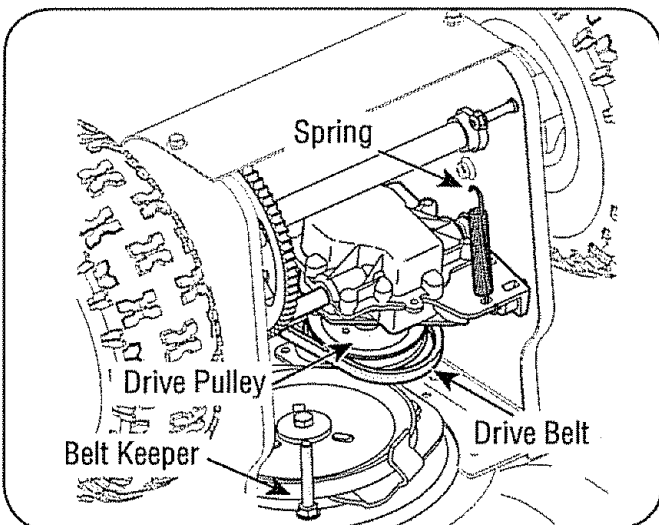

Figure 11
1. Tip the snow thrower up and forward so that it rests on the auger housing. Remove the belt keeper as called out in Figure 11. Return the snow thrower to its upright position to complete the following steps.
2. Remove the spring that connects the transmission to a bolt on the engine frame. See Figure 11.